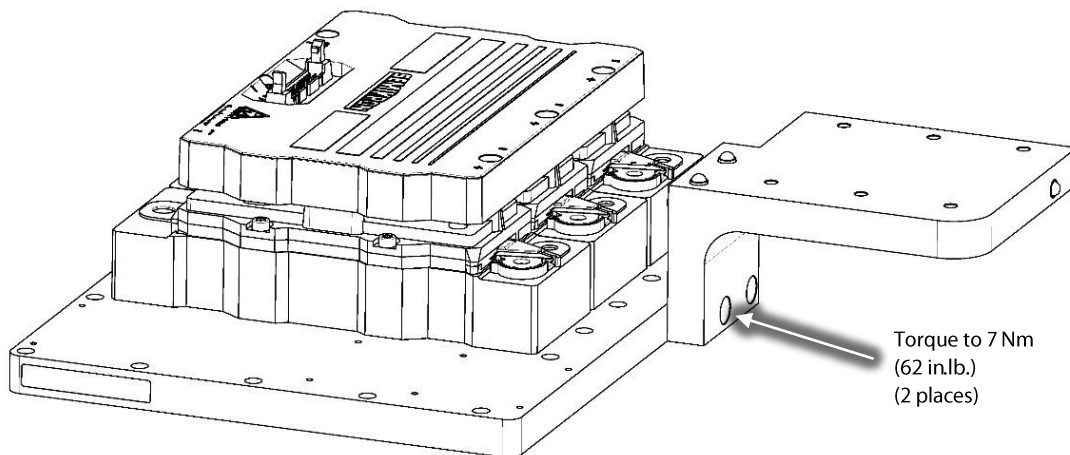

Figure 19 – SCR Cooling Manifold Removal
30. Carefully remove the SCR cooling manifold foam insulation in order to gain access to the two (2) screws shown in Figure 19 (SCR Cooling Manifold). Retain for use with the new Inverter assembly.
31. Remove the two (2) screws indicated in Figure 19 (SCR Cooling Manifold) and carefully remove the SCR Cooling Manifold. Retain for use with the new Inverter assembly.